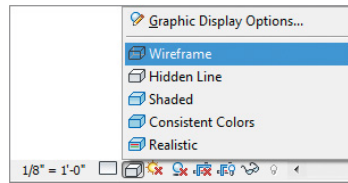

FIGURE 7.18 Setting the view to Wireframe
1. Return to the Level 1 plan view. Set the view to Wireframe, as shown in Figure 7.18 (so you can see through the mass you've just created). The Wireframe button is located in the View Control Bar at the bottom of the screen.